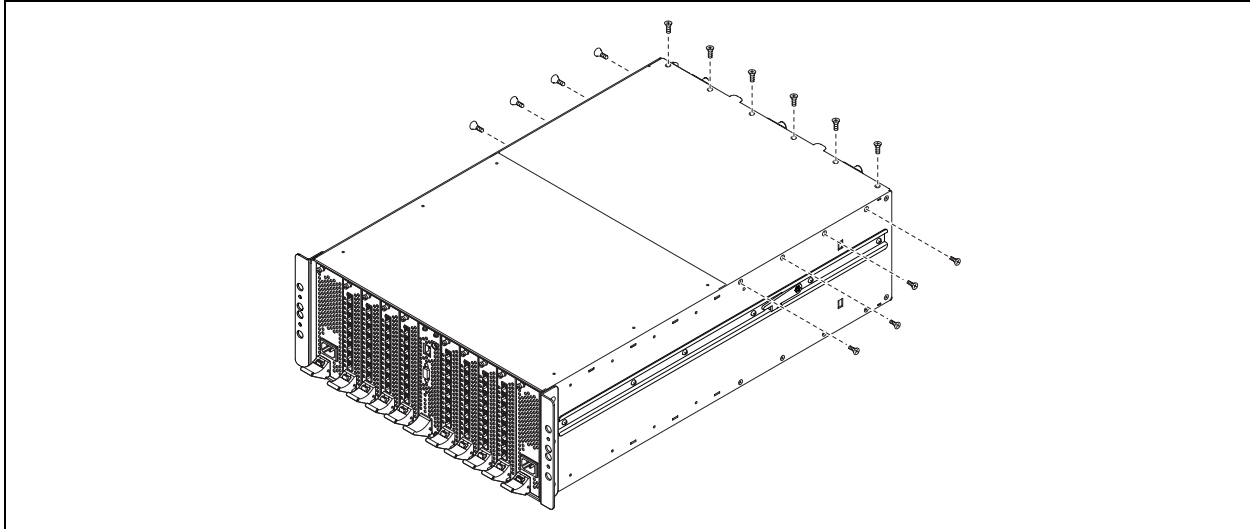

Figure 6-4. Switch Cover Removal
6. Remove the switch cover. Use a medium crosshead screw driver to remove the four screws on each side and the six screws on top as shown in Figure 6-4. Lift and remove the switch cover and set it aside. Put on an ESD wrist strap and connect it to ground.